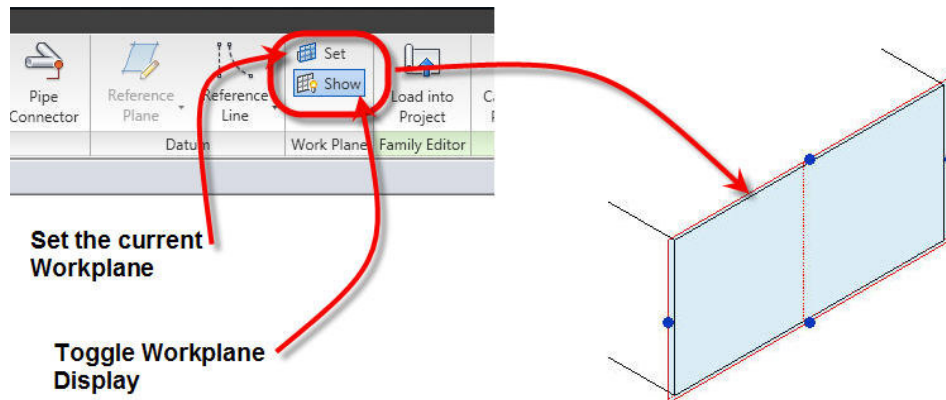

Figure 8. Setting the current Work Plane and toggling display.
5. Check and set the Work Plane for the sketch geometry. It is important to do this first, if for no other reason than to ensure that you're drawing the sketch where you think you are (see Figure 8). Note that you can also set the current Work Plane at any time by selecting the Work Plane tool on the "Create" ribbon, and you can display the current Work Plane using the Work Plane Display toggle on the ribbon as well (see Figure 8).